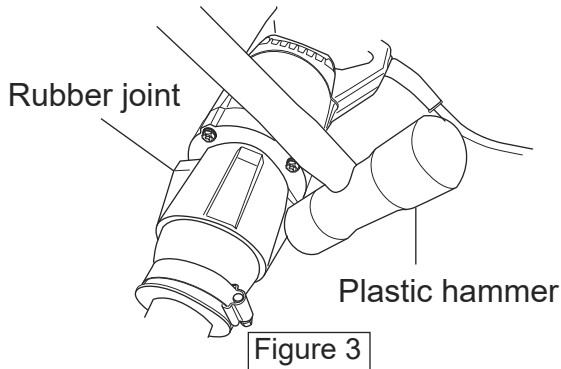

Figure 3
1. Remove the rubber joint by hitting with the plastic hammer. (The rubber joint is left-hand screw.) (Figure 3)
6. Tighten the rubber joint properly by hitting with the plastic hammer. (The rubber joint is left-hand screw.) (Figure 3)